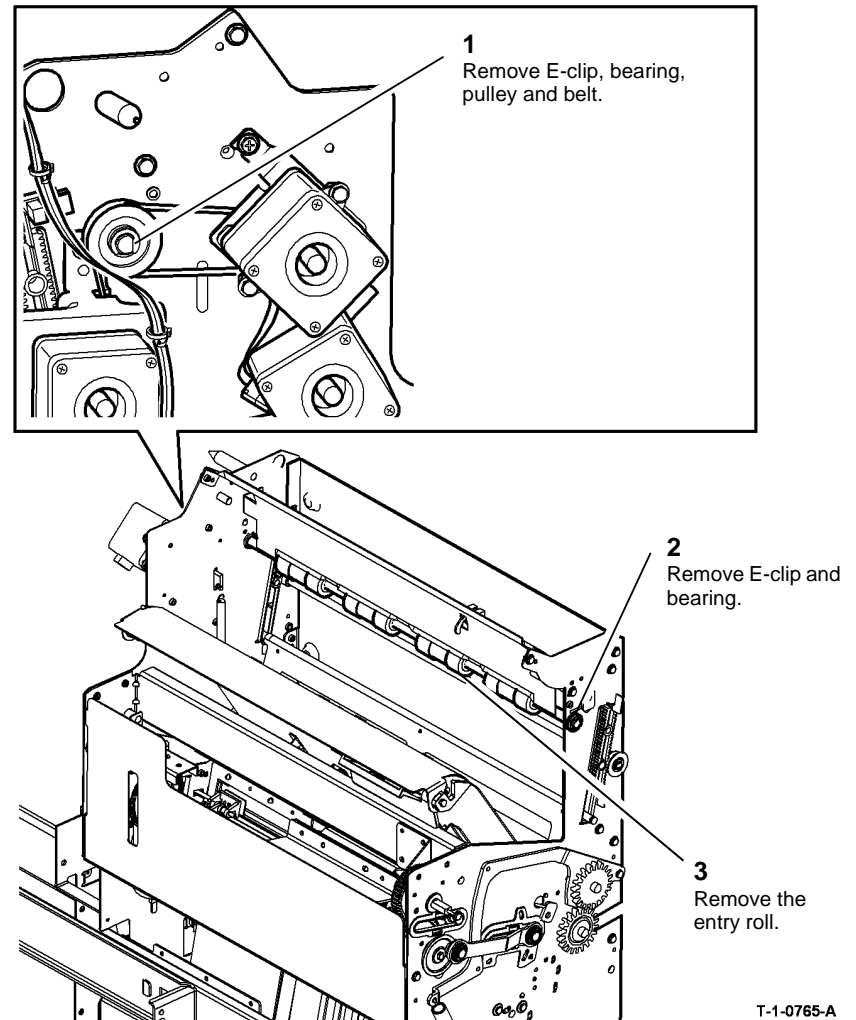

Figure 1 Roll removal
5. Remove the BM Entry Roll, Figure 1.